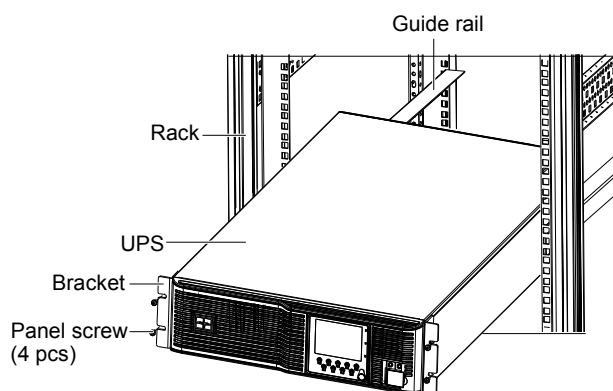

Figure 2-7 Installation of single UPS
3. Place the UPS on the guide rails in the rack, and push it completely into the rack. Use four M6*16 panel screws to fix the UPS in the rack through the installation holes of the brackets, as shown in Figure 2-7.